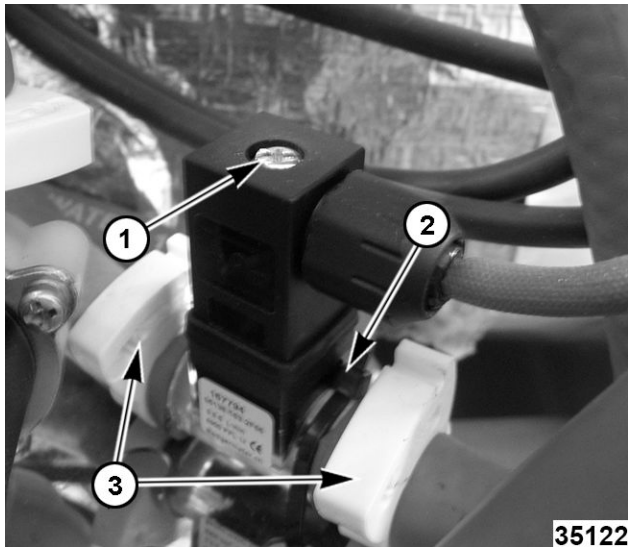

Fig. 52
- Remove electrical supply (1, Fig. 52) to flow meter.
- Remove cable tie (2, Fig. 52).
- Disconnect clamps (3, Fig. 52).